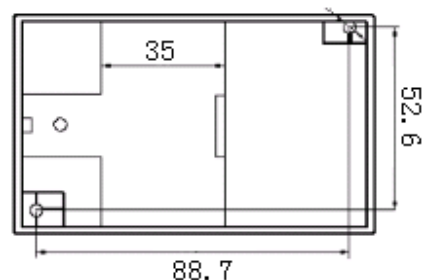

Figure 3, SK outline installation dimensions
- ① Fix the transducer on the side of the card slot and hook on the mounting rail;
- ② Pull the spring pin down;
- ③ Clip the transducer mount on the mounting rail;
- ④ Release the spring pin and clip the transmitter on the mounting rail.
- ① 3mm diameter hole in the fixed plate according to the screw hole position shown in Fig. 3;
- ② Use the screw $\Phi 3$ to insert into hole and secure it.